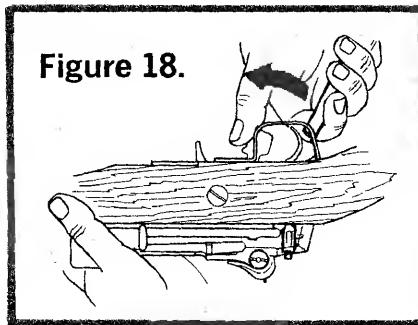

Figure 18.
5. Use a $\frac{1}{4}$ " diameter steel rod, punch, screwdriver shank, or other suitable instrument to spring open the trigger guard from its latched position (Figure 18).